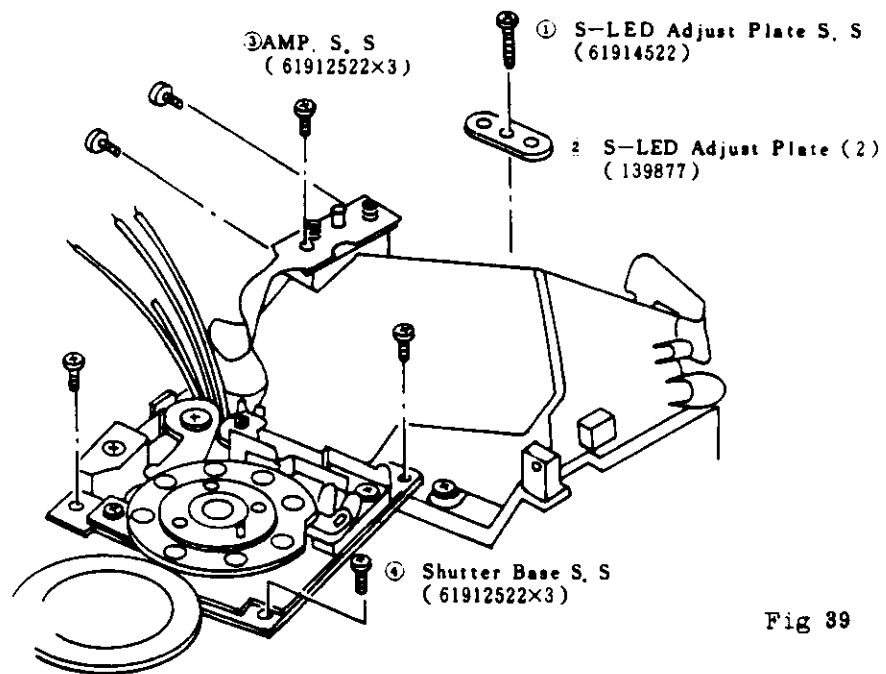

Fig 39
- e) Remove the respective parts ① ~ ④ shown in (Fig 39) in numerical order.